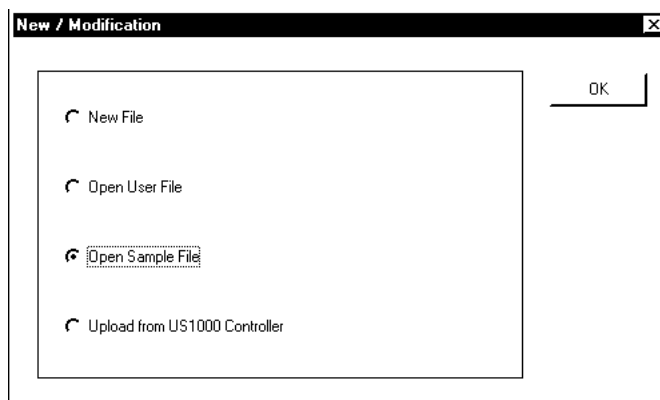
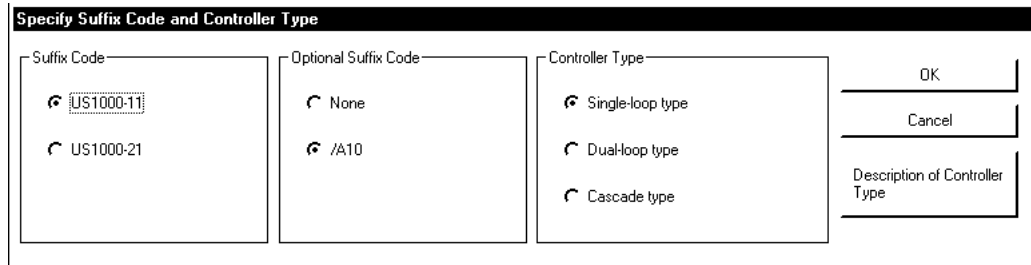
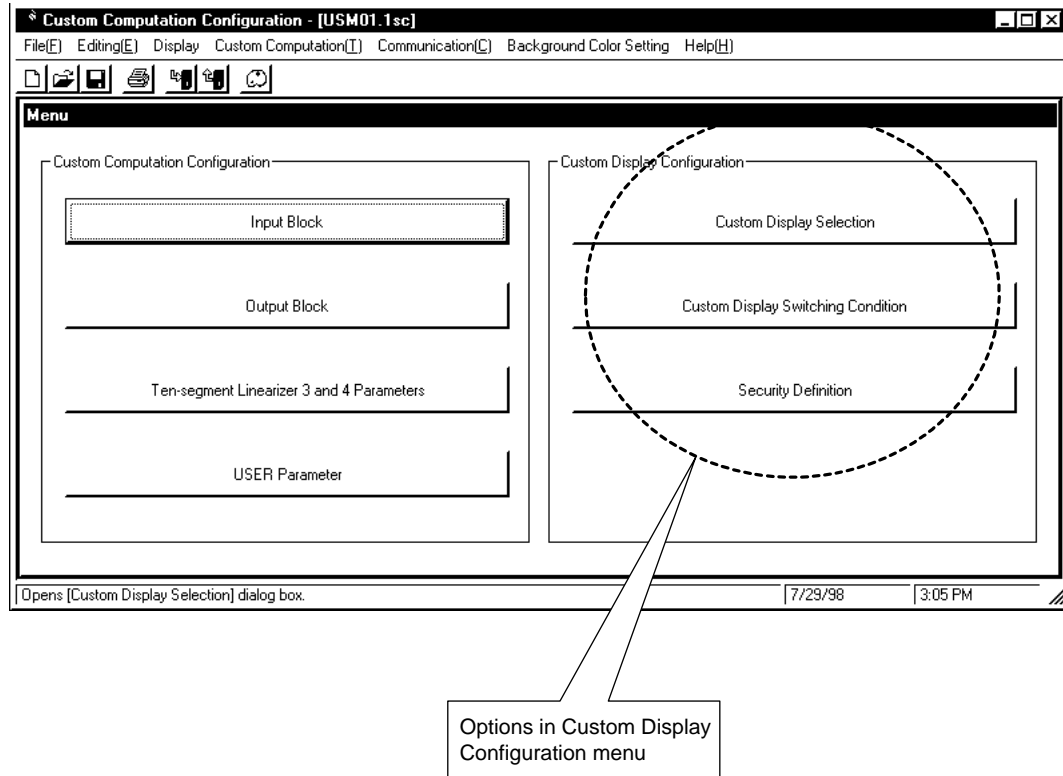

Figure 5.1.2 [New/Modification] Dialog Box
Figure 5.1.3 [Specify Suffix Code and Controller Type] Dialog Box
Figure 5.1.7 [Custom Display Configuration Menu] Dialog Box
Click the <Custom Computation Building Tool> option button, and then the <OK> button. The [New/Modification] dialog box (Figure 5.1.2) appears.
- ① If you are configuring a custom display from scratch, choose <New File>. Click the <New File> option button, then the <OK> button. The [Specify Suffix Code and Controller Type] dialog box (Figure 5.1.3) appears.
If you choose <New File> in the [New/Modification] dialog box (Figure 5.1.2), the [Specify Suffix Code and Controller Type] dialog box (Figure 5.1.3) appears. This dialog box also appears if you choose <Open Sample File>.
In the [Specify Suffix Code and Controller Type] dialog box, click the <OK> button. The [Custom Display Configuration Menu] dialog box (Figure 5.1.7) appears.
In the [Open User File] dialog box, choose the file you want to use and click the <Open> button. The [Custom Display Configuration Menu] dialog box (Figure 5.1.7) appears.
In the [Open Sample File] dialog box, choose the file you want to use and click the <Open> button. The [Specify Suffix Code and Controller Type] dialog box (Figure 5.1.3) appears. In the dialog box, click the <OK> button. The [Custom Display Configuration Menu] dialog box (Figure 5.1.7) appears.
- ① In the [Upload from US1000 Controller] dialog box, click the <Front Terminal> option button.
- ③ Click the <Execute> button. Data are uploaded from the US1000 controller.
- ④ When uploading is complete, the [Custom Display Configuration Menu] dialog box (Figure 5.1.7) appears.
- ③ Click the <Execute> button. The LL1200 tool begins uploading data from the US1000 controller.